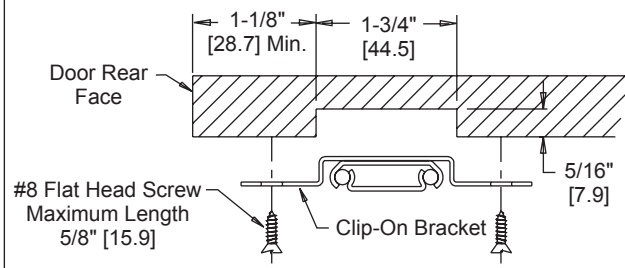

Figure 2
4. Rout case top to achieve desired gap. Move hinge assembly to bottom of door and align hinges to pre-drilled holes. See Figure 2.